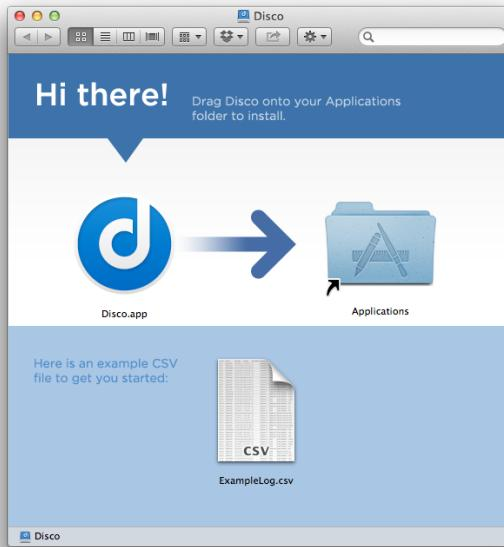

Fig. 2.3. Double-click the *Disco.dmg* disk image and drag Disco to your Applications folder.
2. Double-click the downloaded file *Disco.dmg* to mount the disk image. A disk image named “Disco” will appear on your desktop. Double-click to open it (see Figure 2.3).